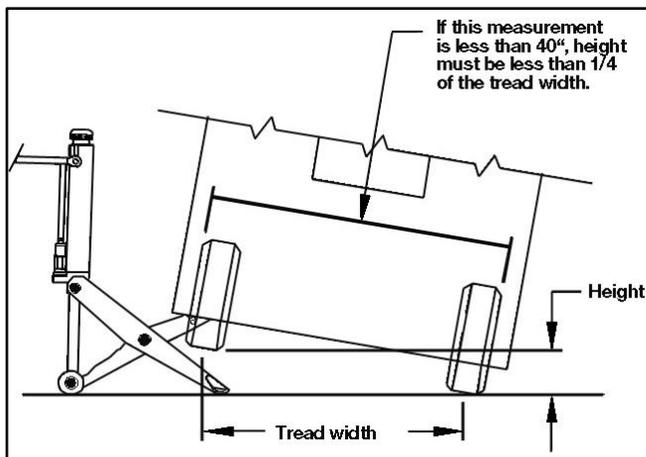

Fig. 4: Lifting height versus forklift width
- ⚠** Make sure at least two wheels of the forklift remain in contact with the floor at all times. Never raise a 3-wheeled forklift from the 2-wheeled end or from the side. Never use the jack to raise all four wheels of the forklift from the floor. Never raise the forklift higher than 1/4 its tread width (See Fig. 4).
► The jack's front footpad and rear wheels must always remain in direct contact with the floor (see Fig. 4).
⚠ Never raise the forklift higher than 1/4 its tread width when using the serrated lift pad (see Fig. 4).